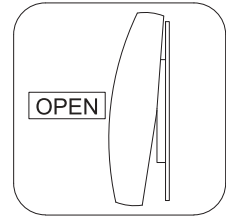

Fig.19
1. Turn the switch to "OPEN" position , as shown in Fig.19.